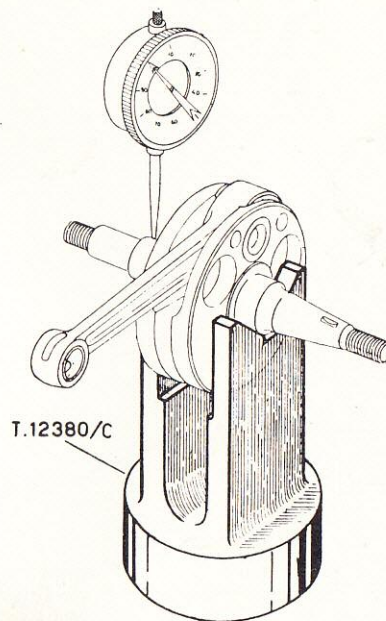

Fig. 92.
6. Check the alignment of the crankshaft rotating it on the fixture T. 12380/C as shown in Fig. 92. The maximum stroke permissible of the dial gauge is 0.06 mm, as read at the crankshaft end.